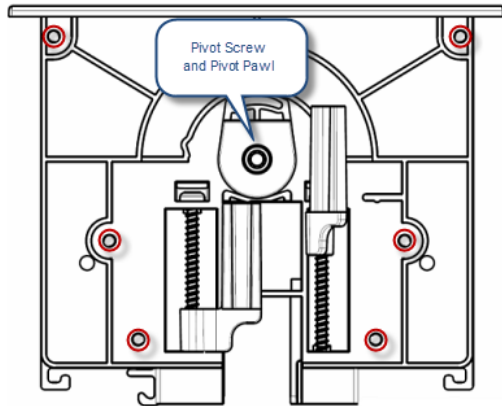

FIG. 5 HPX Base Assembly (shown mounted) - Mounting/Pivot Screw Locations
1. Remove the (silver) pivot screw and pivot pawl assembly in the center of the End Cap (FIG. 5).
3. Secure the End Cap with the six (black) sheet metal screws (removed in Step 2 - 2; see FIG. 5).
4. Replace the (silver) pivot screw and pivot pawl assembly (removed in Step 2 - 1, see FIG. 5) in the center of the End Cap.